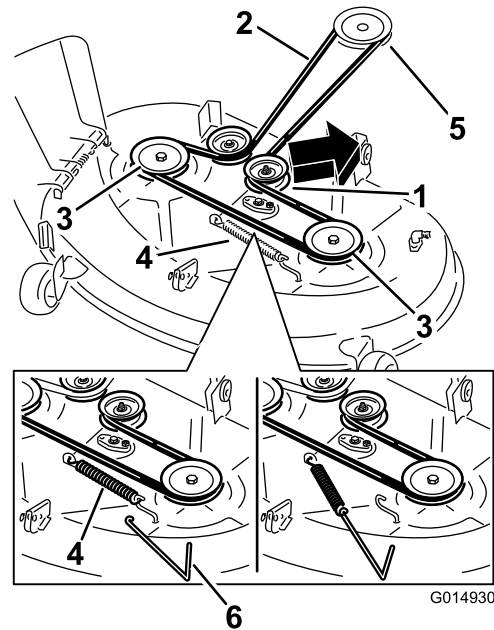
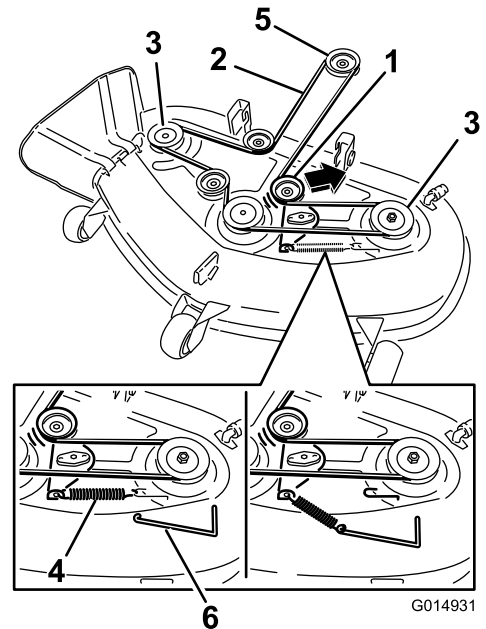

Figure 59
Figure 60
5. Using the mower-deck handles, lift the mower deck and hanger brackets clear of the rear lift rod and lower the mower carefully to the ground (Figure 57 and Figure 59).
5. Using a spring removal tool, (Toro Part No. 92-5771), remove the idler spring from the deck hook to remove tension on the idler pulley and roll the belt off the pulleys (Figure 59 and Figure 60).
6. Route the new belt around the engine pulley and mower pulleys (Figure 59 and Figure 60).
7. Using a spring removal tool, (Toro Part No. 92-5771), install the idler spring over the deck hook and placing tension on the idler pulley and mower belt (Figure 59 and Figure 60).